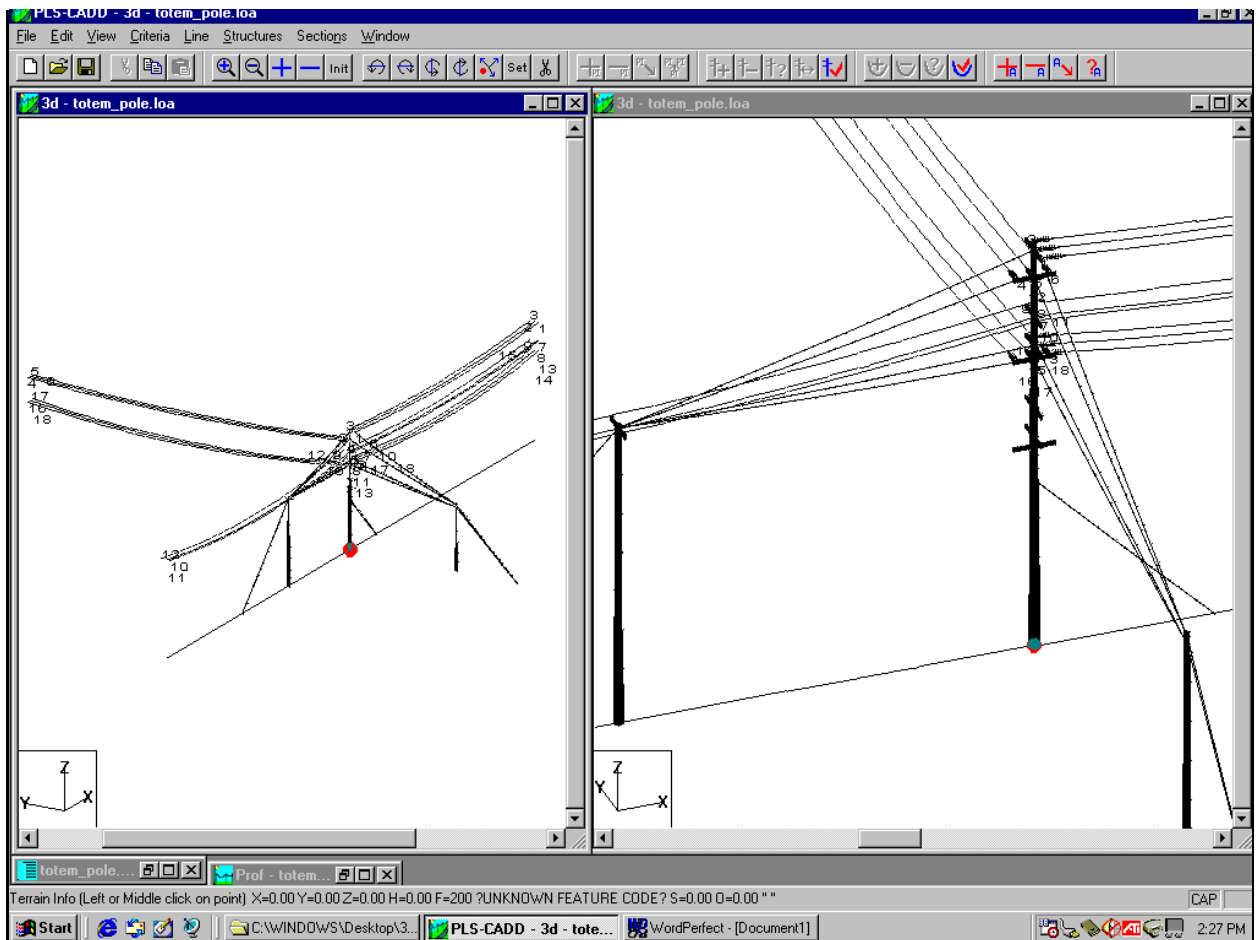
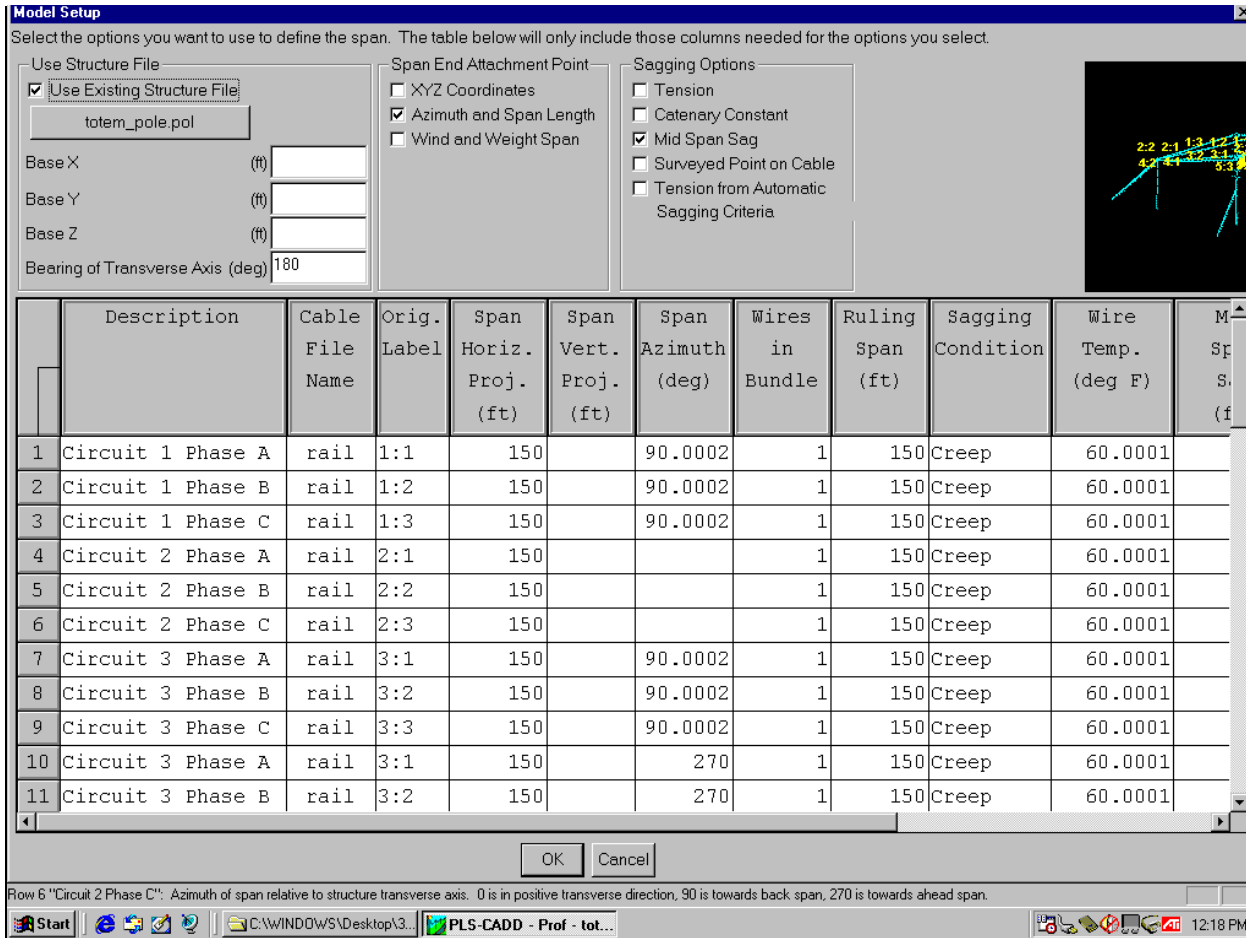
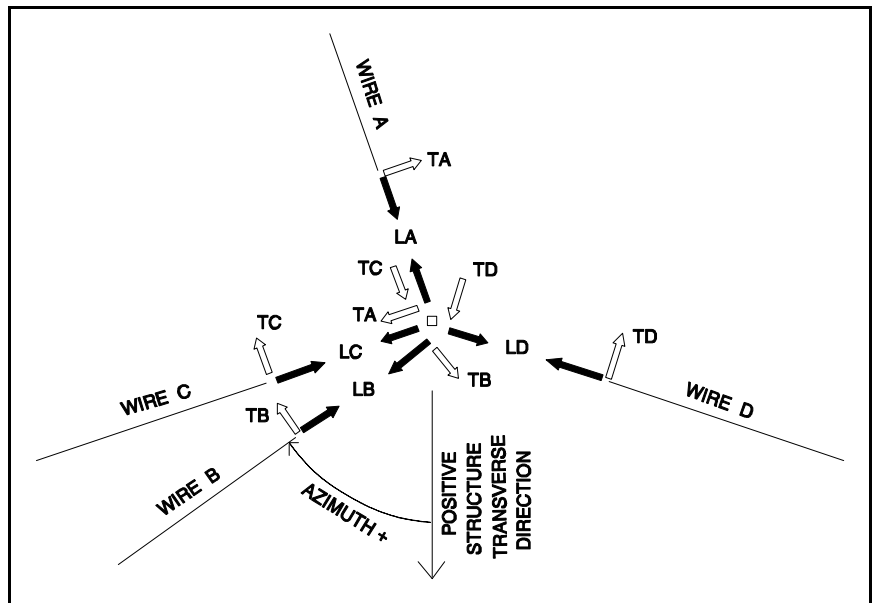
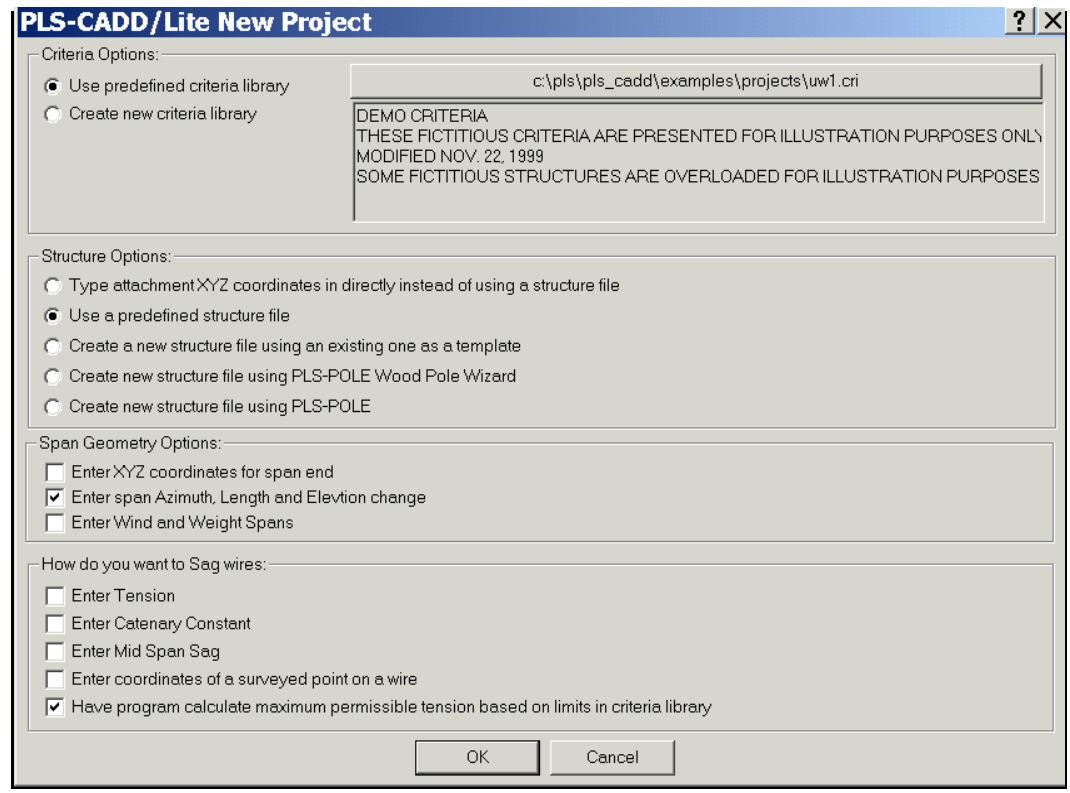

Fig. 15-1 Wood pole strung in PLS-CADD/ LITE
Fig. 15-2 One possible configuration of the Model Setup dialog box
Fig. 15-3 Top view of radiating wires
Fig. 15-4 Getting started with new PLS-CADD/ LITE project
If a structure model has been developed in the **TOWER** or **PLS-POLE** program, that model can quickly be strung with wires in any direction by entering data in a single table (see Fig. 15-2). Then the corresponding loading tree can be calculated for that structure and the structure checked at the click of the mouse. The structure shown in Fig. 15-1 actually consists of a wood pole guyed in several directions through stub poles and span guys. The pole, cross arms, insulators, associated stub poles and all guys are part of a single **PLS-POLE** model.
In **PLS-CADD/ LITE**, there is no concept of cable sets and phases. All you need to do is describe how individual wires radiate from attachment points on your structure. While we say that the wires radiate from the structure, it is not necessary that they all terminate on the same vertical axis. Actually, one of the powerful features of **PLS-CADD/ LITE** is that the various wire attachment points on the structure may have arbitrary offsets from whatever vertical reference axis is associated with the structure. In the right pane of Fig. 15-1 you can see wires with different offsets radiating from cross arms perpendicular to each other. Ignoring offsets, as is commonly done by other loading programs, can result in serious errors in the calculation of design loads, especially with short spans.
Each wire has two end points, the origin being the attachment point to the structure and the end being at the other extremity of the span. Internally, these end points are located in a global X,Y,Z coordinate system, where Y is North, X is East and Z is up. However, structure loads are defined by their components in the structure transverse and longitudinal directions. Therefore, you will need to define the structure transverse direction (direction shown in the plan view of Fig. 15-3)
relative to the global Y-axis. This is done by entering the *Bearing of Transverse Axis* (angle from Y-axis to transverse structure direction between -180 and + 180 degrees, positive if clockwise) in the top left part of the **Model Setup** dialog (see Fig. 15-2). The arrows labeled TA, TB, TC and TD in Fig. 15-3 show the wind reactions at the ends of the wires and the corresponding loads on the structure (in the span coordinate systems). These wind loads are reported by **PLS-CADD/ LITE** as positive quantities if their actions on the structure have positive projections in the direction of the structure transverse axis: this is the case for all the wind load arrows shown in Fig. 15-3.
If you select *Azimuth and Span Length* (or *Projections* in the **End Mode** column) you will enable the **Span Azimuth**, **Span Horizontal Projection** and **Span Vertical Projection** columns. The azimuth is, in the plan view, the clockwise angle, between -180 degrees and +180 degrees, measured from the structure transverse axis to the span direction (see Fig. 15-3). The *Span Vertical Projection* is positive if the structure end of the span is lower.
If you chose *PLS-CADD/LITE* after clicking on **File/New**, the dialog box of Fig. 15-4 will appear. With the proper selections in that box, you will be taken directly to the **Model Setup** dialog box of Fig. 15-2 which will have already been customized for you to enter span data without any further consideration.
1) the **Wire Loads** in the span coordinate systems. These loads are the arrows shown in Fig. 15-3 and are strictly equal to the reactions at the end of each wire times the appropriate load factors as discussed in Section 7.3.12.3. The vertical loads do not include the weights from insulators or counterweights.
When a model is described by its wind and weight spans, the unfactored loads in the span coordinate system (those shown in Fig. 15-3) are based on the traditional assumption that: 1) the transverse wind load, T , at the end of a wire is equal to UH (see Fig. 7.2-3) times its wind span, 2) the vertical load, V , is equal to $(UW + UI)$ times its weight span, and 3) the longitudinal load, L , is the horizontal component of tension in the ruling span caused by the resultant UR .